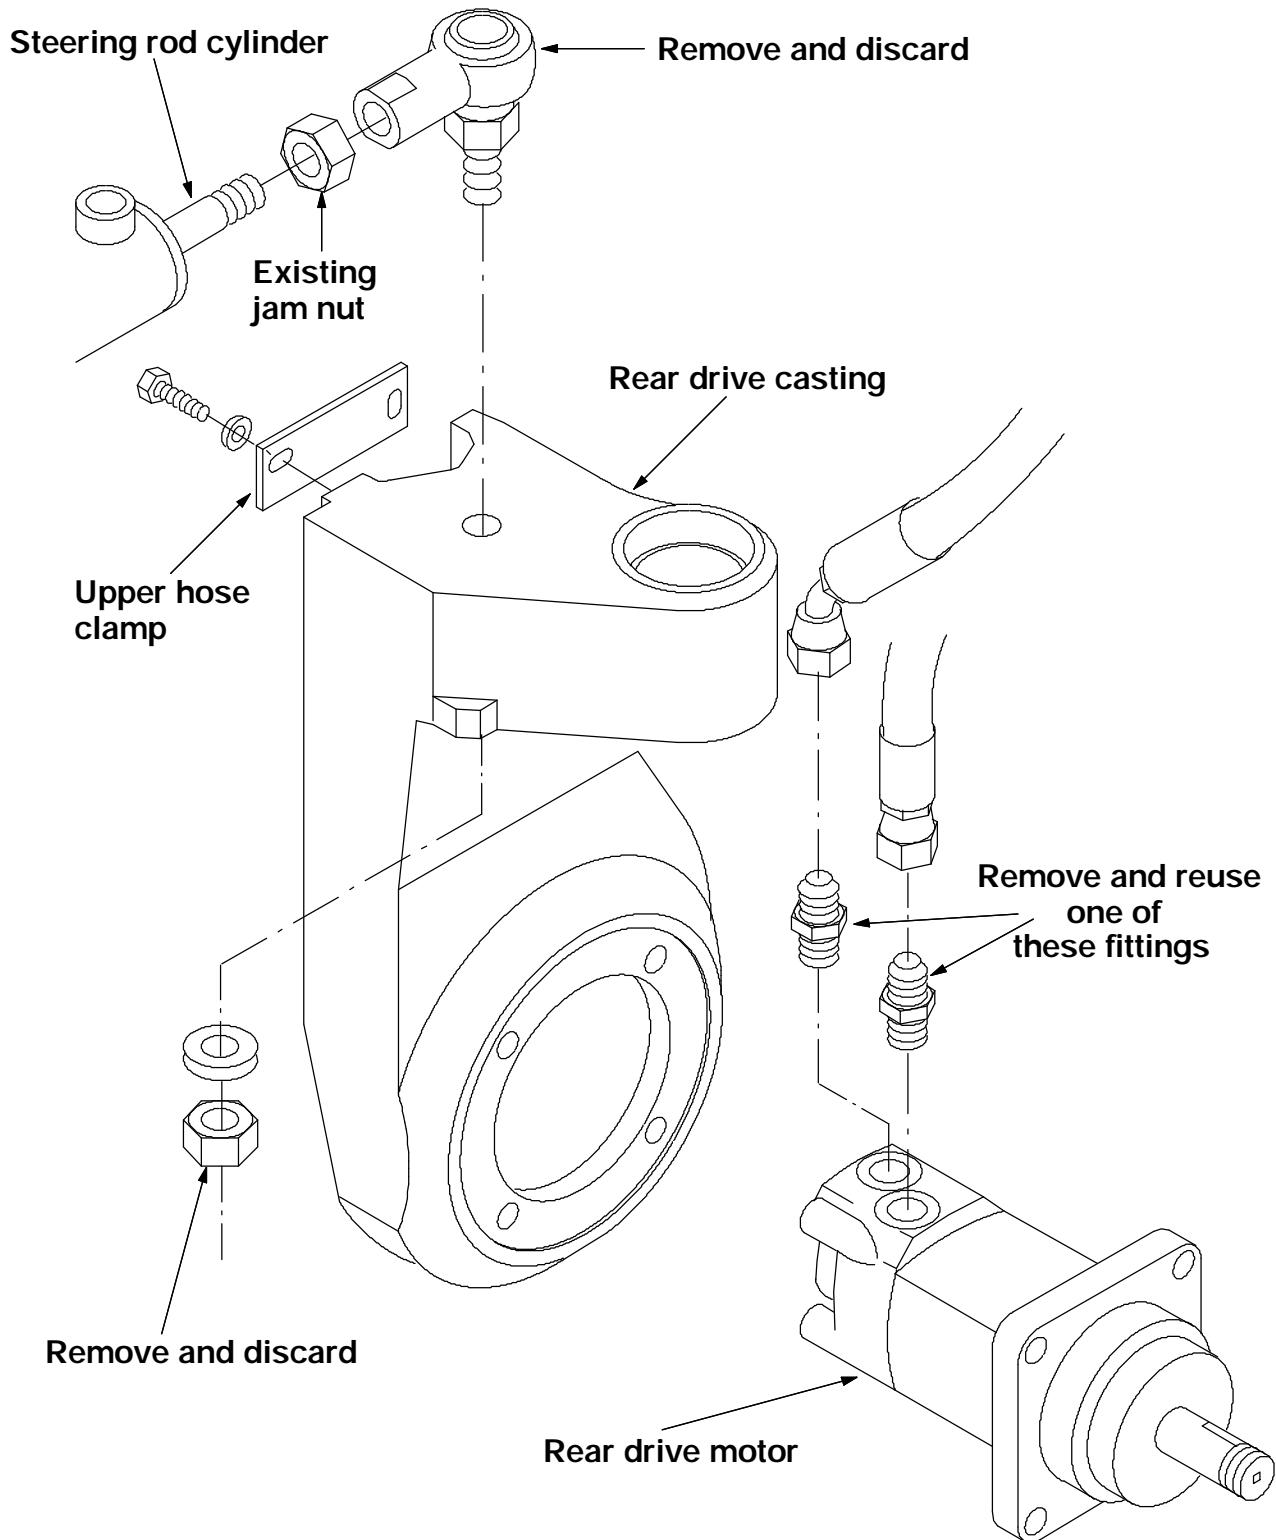

FIG. 1 - Old Style Rear Steering Cylinder Balljoint Assembly, Hydraulic Fittings, And Hoses
(Refer to FIG. 1 and 2)
7. Place a drain pan under the rear drive motor. Mark and remove the two larger hydraulic hoses from the drive motor. Remove both straight fittings from the drive motor: one fitting must be retained for reuse. The hydraulic hose with the 45°end must be loosened on the opposite end and rotated 180°. Re-tighten the hose end. (Refer to FIG. 1 and 2)
8. Remove the upper hose clamp from the rear drive casting. Pull the hoses out of the way so the hardware holding the existing steering cylinder ball joint to the casting can be accessed. (Refer to FIG. 1 and 2)
9. Remove the nut from the bottom of the existing ball joint at the rear of the steering cylinder. Lift the cylinder up far enough to remove the balljoint from the steering cylinder rod. Loosen the jam nut on the cylinder rod. Remove and discard the existing ball joint. (Refer to FIG. 1 and 2)
1. Install the new balljoint (1) on the steering cylinder rod in the same location and orientation as the old ball joint. (Refer to FIG. 1 and 2)
2. Place the hex screw (2) and flat washer (5) through the new balljoint (1) end. Position the sleeve (3) under the balljoint. Place the hex screw (2) through the mount hole in the rear casting. (Refer to FIG. 1 and 2)
3. Install the nyloc nut (4) on the new screw (2). Tighten the screw (2) and nut (4) to 240 ft lbs. This must be done or the balljoint may loosen up over time. Go back and tighten the jam nut on the steering cylinder rod. Tighten the jam nut very firmly. (Refer to FIG. 1 and 2)
4. **If your machine is a model 355**, install the straight fitting (7) in the port on the drive motor nearest the face of the drive casting. (Refer to FIG. 1 and 2)
5. **If your machine is a model 385**, install the straight fitting (8) in the port on the drive motor nearest the face of the drive casting. (Refer to FIG. 1 and 2)
6. Install the reducer fitting (9) on top of the fitting installed in the previous step. (Refer to FIG. 1 and 2)
7. Install the straight fitting retained from the old motor into the port on the new drive motor that is farthest from the face of the drive casting. Install the 45° fitting (6) so it points toward the rear drive casting. (Refer to FIG. 1 and 2)
8. Connect the hydraulic hose, with the straight end, to the fitting in the drive motor nearest the face of the drive casting. Firmly tighten the hose end while holding the hose from turning. (Refer to FIG. 1 and 2)
9. Connect the hydraulic hose, with the 45° end, to the 45° fitting in the drive motor farthest from the face of the drive casting. Firmly tighten the hose end while holding the hose from turning. **Note: This hose must be rotated 180° from the original orientation before reconnecting.** (Refer to FIG. 1 and 2)
10. Reinstall the upper hose clamp on the drive casting. Tighten the hardware to 15 – 20 ft lbs. (Refer to FIG. 1 and 2)
11. Install the two cable ties (10) around the rear drive motor hydraulic hoses in the area just above the drive casting.